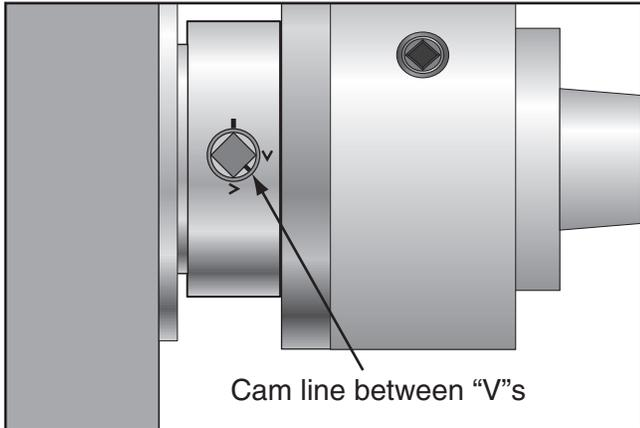

Figure 3. Cam line properly positioned between the two "V"s.
- When the chuck is fully seated and all the spindle camlocks are tight, verify that the cam lines are between the two "V" marks, as shown in **Figure 3**.